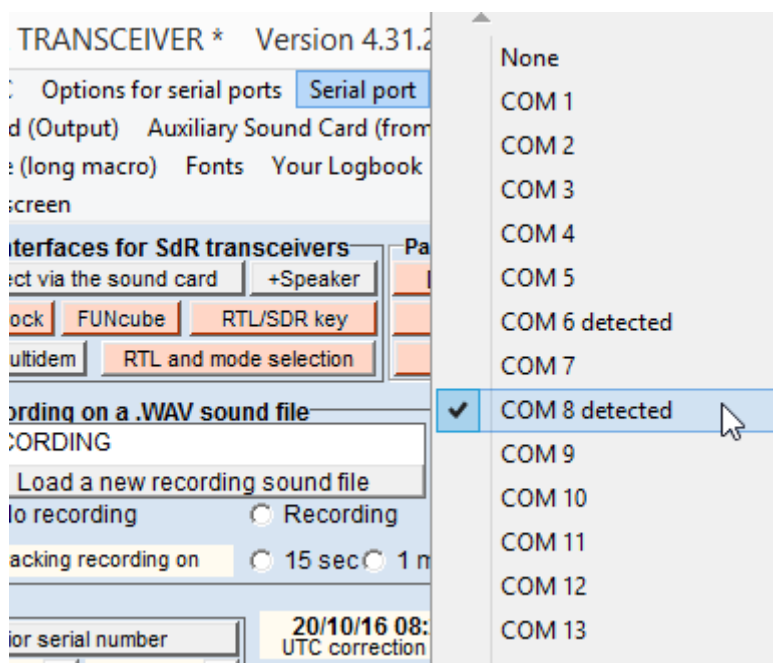

Figure 22: Setting the number of the serial port in the Configuration screen of MultiPSK.
- Serial port -> COM8 (see Figure 22)